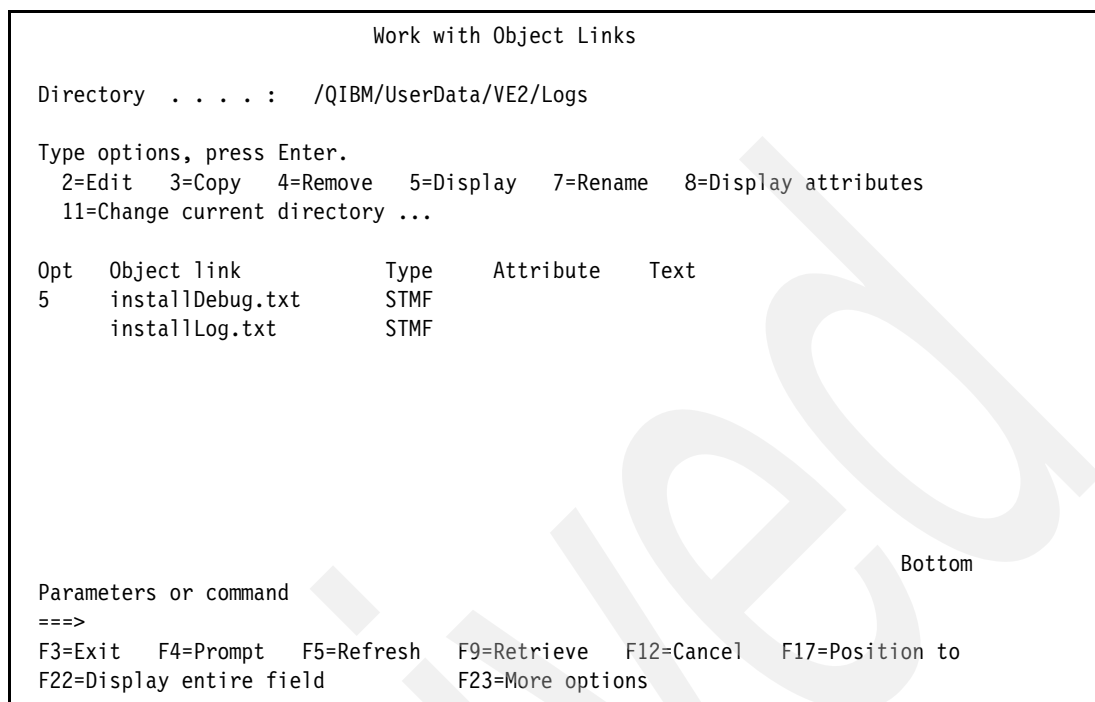

Figure 5-40 WRKLNK CL command
3. The Work with Object Link window (Figure 5-40) appears showing the log files. Enter option 5 (Display) in front of them to display the contents.